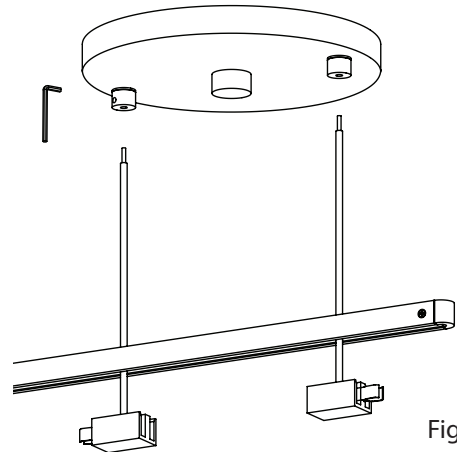

Fig. 1
1. Install the Single Cord Power Feed Hanger onto the Power Bar the same way as the Perpendicular Power Bar Hanger (page 34): pass the cord through the Power Bar, tip the Hanger 45 degrees and insert the copper springs into the center of the Power Bar, then push the Hanger up while tipping it back up 45 degrees. (Fig. 1)